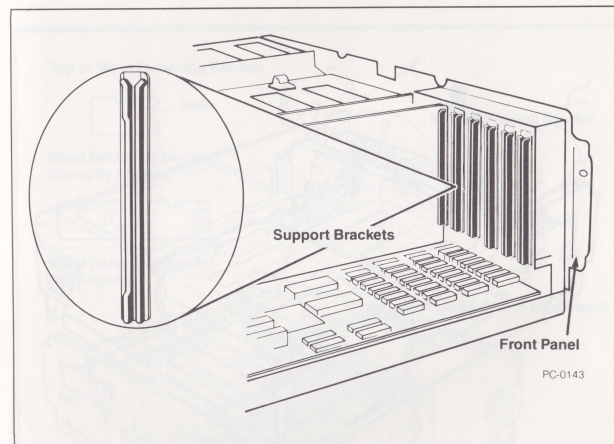

Figure 6-5 The support bracket for an IBM AT or compatible computer
- 4 Line up the edge of the Above Board so that it fits into the top of the support bracket (inside the front panel of your computer) that corresponds to the empty 16-bit expansion slot whose cover you removed in step 3. The support bracket is shown in Figure 6-5.